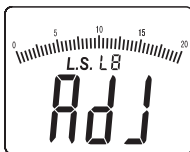

Figure 5-2
- Cover the opto-sensor with the visor, and press and hold "HOLD/ ZERO" key for one second, "ADJ" will appear on LCD interface (as shown in figure 5-2), then the device will enter the zero calibration mode. Several seconds later, "ADJ" on LCD interface